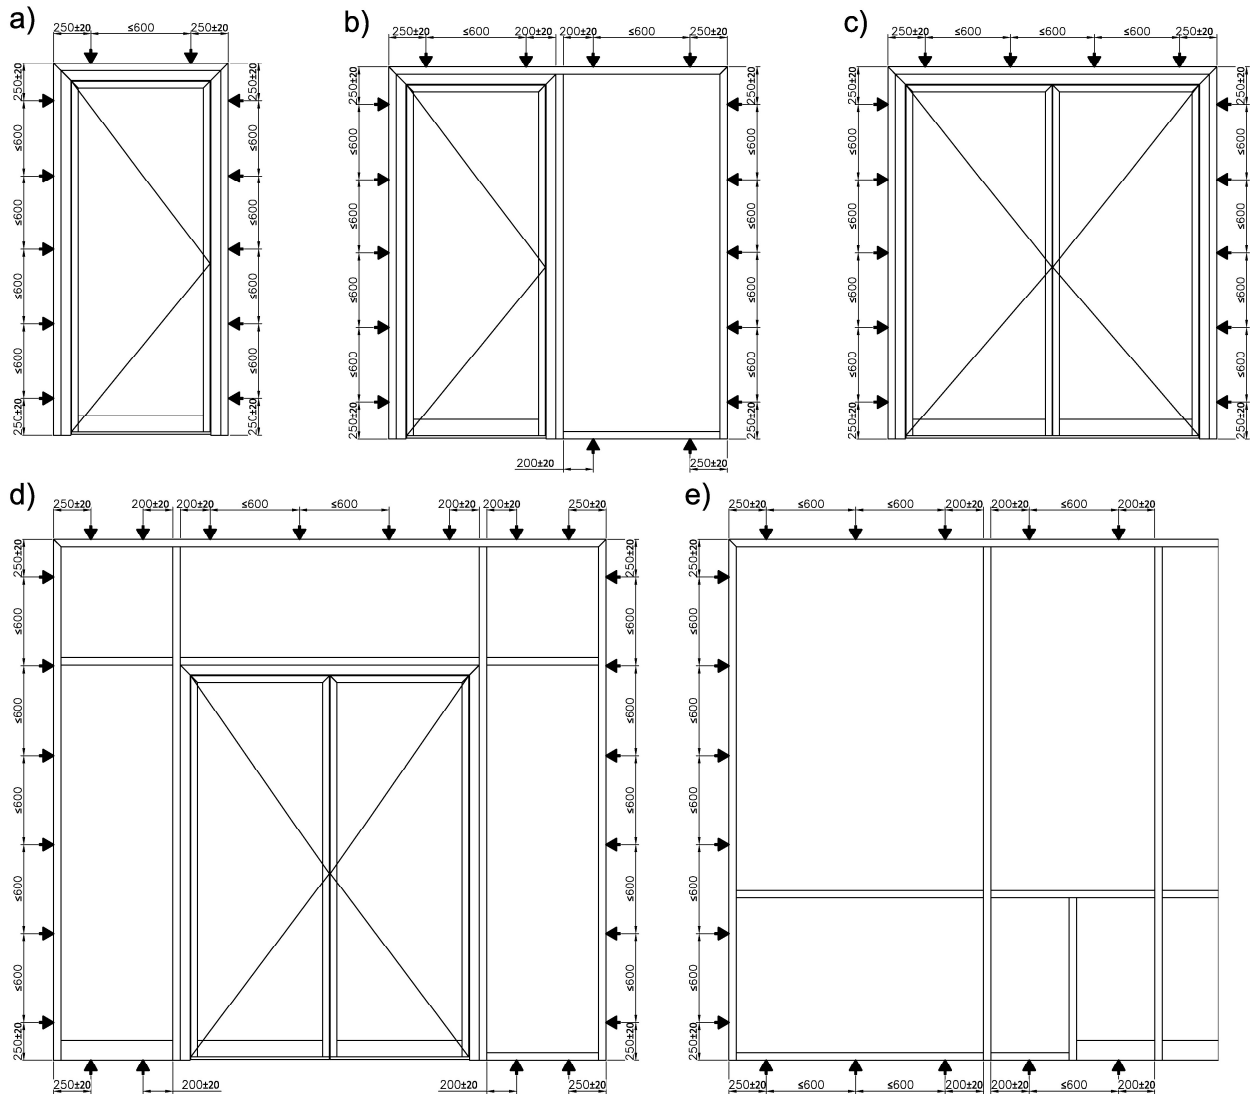

Fig. 16 Dimensional data of fixing points in MB-78EI door and technical window frames for all fire resistance classes
Fig. 16 shows the dimensional data of fixing points in door and technical window frames for all fire resistance classes.
- the sides of the frame should be fitted with frame connector (catalogue no. 80322073) or frame connector with anchor (catalogue number 80322086) in sufficient quantities and spaced in accordance with section 4.2.1. and 4.3.3. and Figs. 16 and 18, or, if they are fixed with the use of concrete screws, as shown in Figs. 16 and 17,
- the door frame or door system frames should be fixed to the wall with at least \varnothing 10 mm steel expansion plugs, or system-specific anchors (catalogue no. 80322086), and spaced at no more than 600 mm; their distance from the corners of the frame or door system frame should not be greater than 250 mm in accordance with Figs. 16, 17 and 18.
- fire door and technical windows frames or the door system frame should be attached to the flexible framed walls with bolts or steel screws (minimum \varnothing 5 mm or M 5), spaced at no more than 600 mm; their distance from frame corners cannot exceed 250 mm, in accordance with Fig. 16,